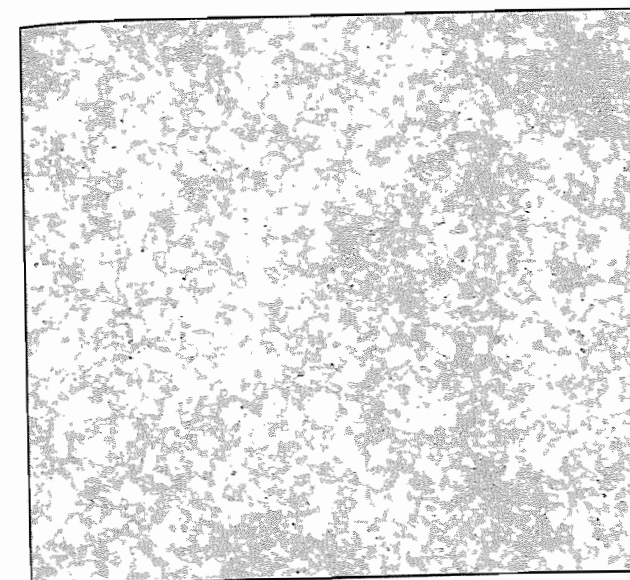

Figure 6-43. The grog that I use shown actual size.
**Grog** is man-made sand. It is made by crushing and sieving freshly fired pottery. Potters and sculptors add it to their clay to give it a gritty, rustic texture called "tooth". You can buy it in assorted mesh sizes, but the exact size isn't critical. **Figure 6-43** shows the material that I use, *actual-size*, spread out on a sheet of paper. The place where I buy it calls it "medium-fine", but another dealer might call it something else. If the grog you buy is a little coarser or a little finer, it doesn't matter. If it's even *close* to what I use, it will work. Grog is sometimes called **firesand**, and you can buy it from the same places that sell the clay. Many years ago it was used in making fireplaces, but you *probably* won't find it at a brick yard, since its use has been all but abandoned by the building trades.